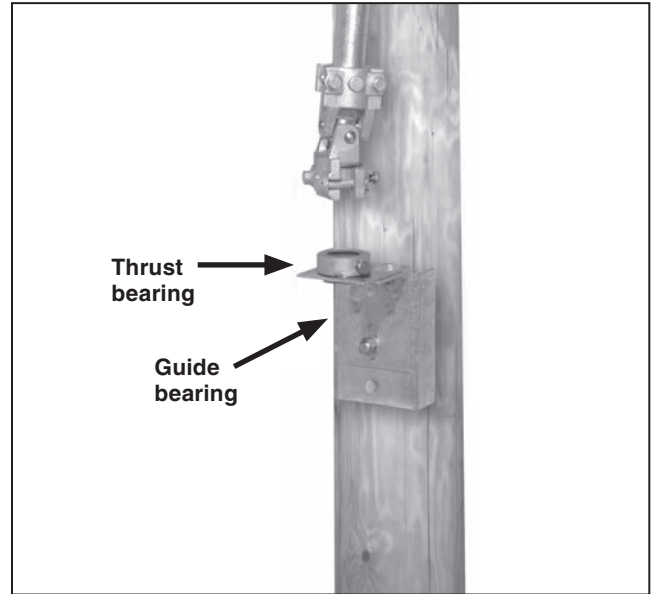

Figure 18. Installing the guide bearing.
STEP 13. Position and install the guide-bearing assembly on the pole or structure in accordance with the dimension shown on the erection drawing. See Figure 18.